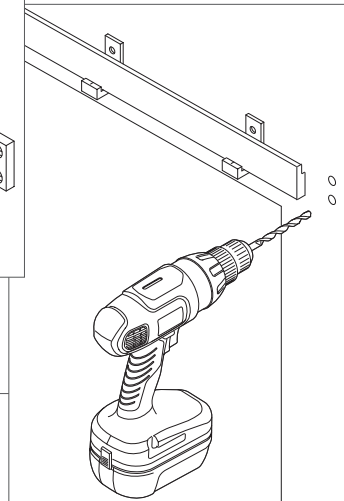

Figure 9
11. Drill out the marked holes using a drill with a 1/4" drill bit. (Figure 9).